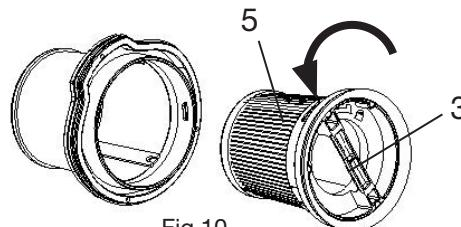

Fig 10
Remove the Hepa filter (5) (Fig. 10) from the filter unit by pulling on the tab (3) and turning it slightly anti-clockwise towards the symbol  (unlocked) to extract it (Fig. 10).